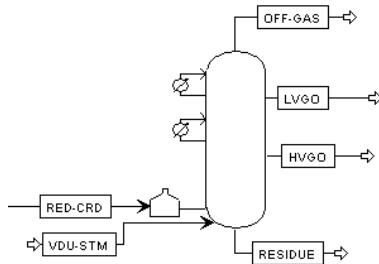

Figure 4.2 The Vacuum Unit
- 11 Connect, move, and name the other streams as shown in Figure 4.2.